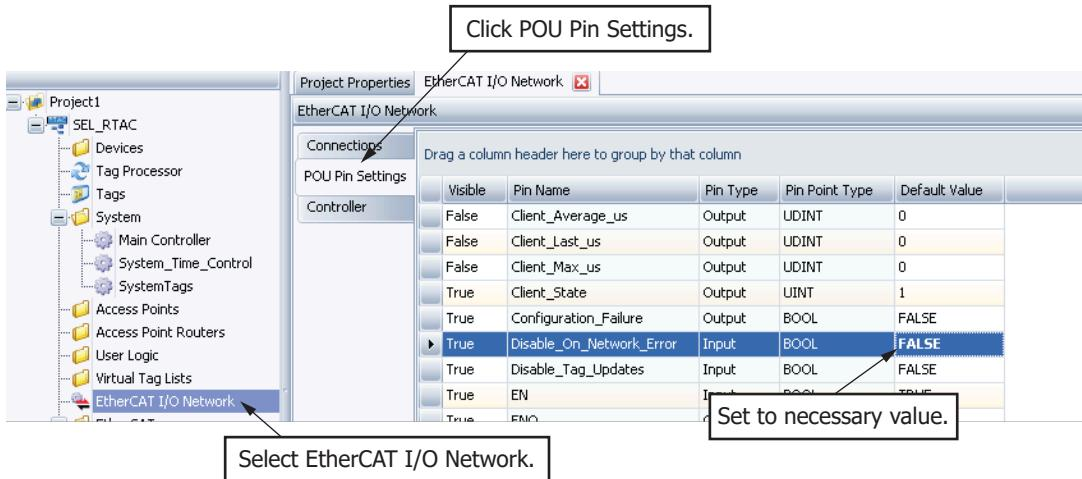

Figure 2.153 Configuring Disable on Network Error Setting
- Step 3. As shown in *Figure 2.153*, find the present value for the setting **Disable_On_Network_Error**. The value will be TRUE initially for each new project. Change the value to FALSE if you prefer that the network continue to operate even if there are network errors or I/O module failures.